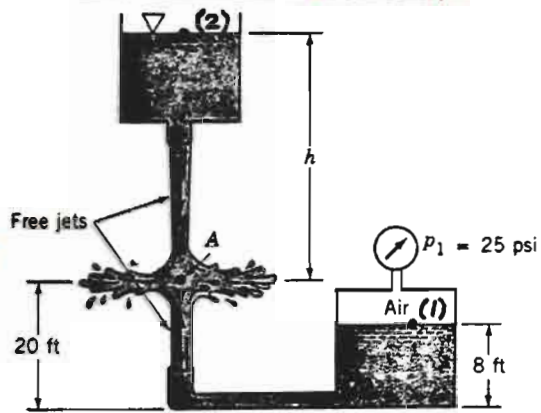

FIGURE P3.38
3.38 Streams of water from two tanks impinge upon each other as shown in Fig. P3.38. If viscous effects are negligible and point A is a stagnation point, determine the height  $h$ .